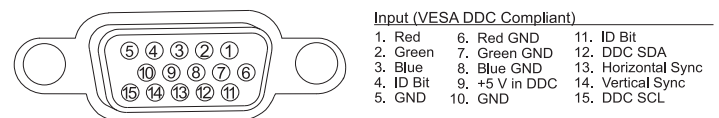

FIG. 4 HD-15 input pinout for converter
3. Attach one end of the HD-15 cable (pinout in FIG. 4) to the Source PC and the other end to the converter.
The HD-15 connector on the converter uses the pinout in FIG. 4.